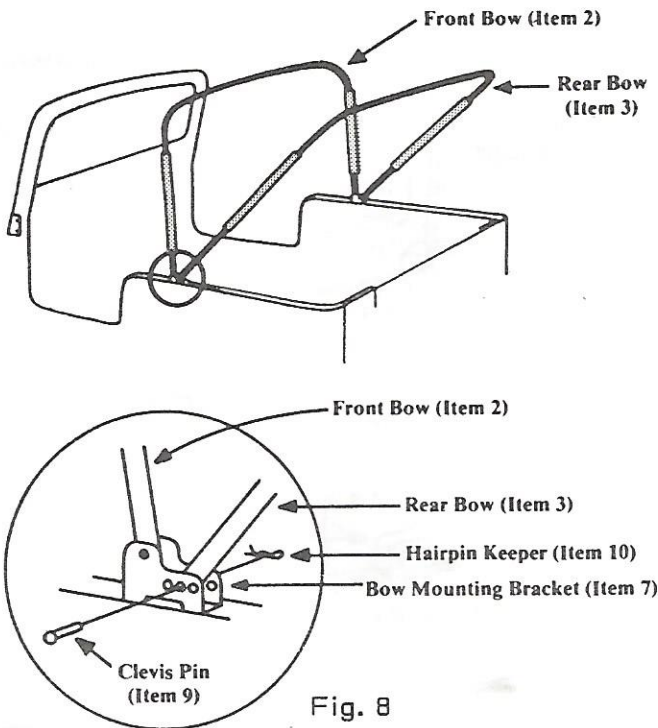

Fig. 8
3. Slide a Bow Cover over each leg of the Rear Bow. Secure Rear Bow to Bow Mounting Bracket with a Clevis Pin and Hairpin Keeper as shown in Figure 8.